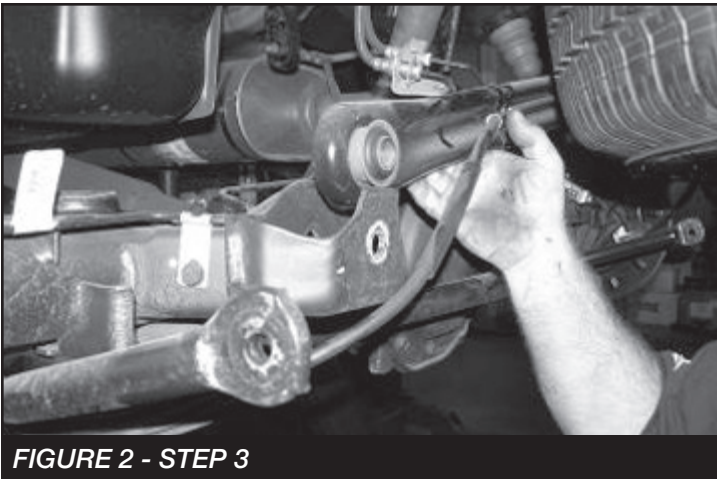

FIGURE 2 - STEP 3
3. Using a floor jack, raise the differential just enough to slightly compress the rear shocks. Remove the bolts securing the top of the shocks to the frame (if equipped with the Auto Ride System, unplug the electric and air line connections) . Remove the lower pivot bolt that attaches the track bar to the axle bracket and save. **SEE FIGURE 2**